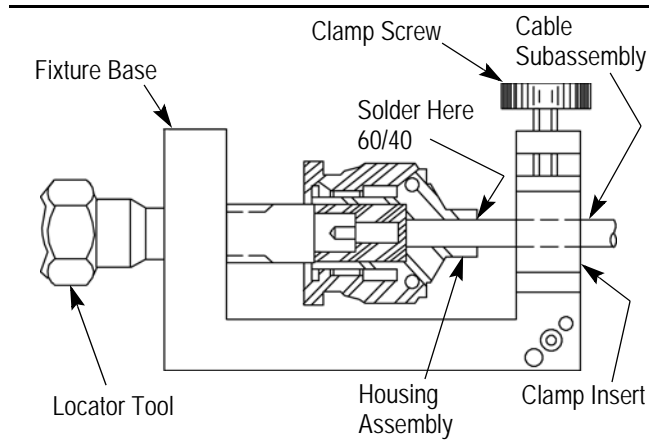

Figure 5
3.3. Soldering of Cable Subassembly to Housing (Figure 5)
2. Place loose assembly in the fixture base as shown in Figure 5.
3. Solder cable to housing subassembly as shown in Figure 5.